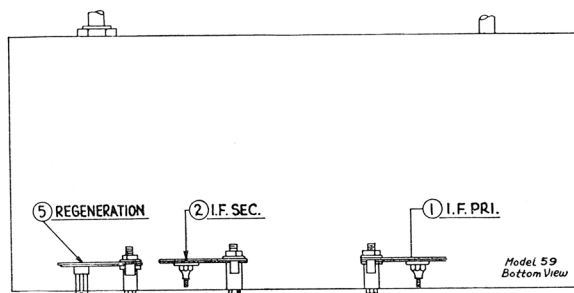

Fig. 18
Referring to Fig. 18, the I.F. primary and secondary condensers ① and ② should be adjusted first. Remove the grid cap clip from the detector-oscillator tube (77 with shield) and connect the antenna lead from the signal generator to the cap of this tube. Connect the ground lead from the signal generator to the ground terminal of the set. Connect output meter as explained on page 2. Set the frequency switch of the signal generator at 460 K.C. (the I.F. of model 59), and turn the switches of the set and signal generator on. Turn volume control full on. Turn the dial pointer on the set to 60, and then adjust the I.F. compensating condensers ① and ② by means of a fibre wrench so that maximum reading is obtained in the output meter. If the needle goes off scale, adjust the attenuator on the signal generator so that a lower reading is obtained.